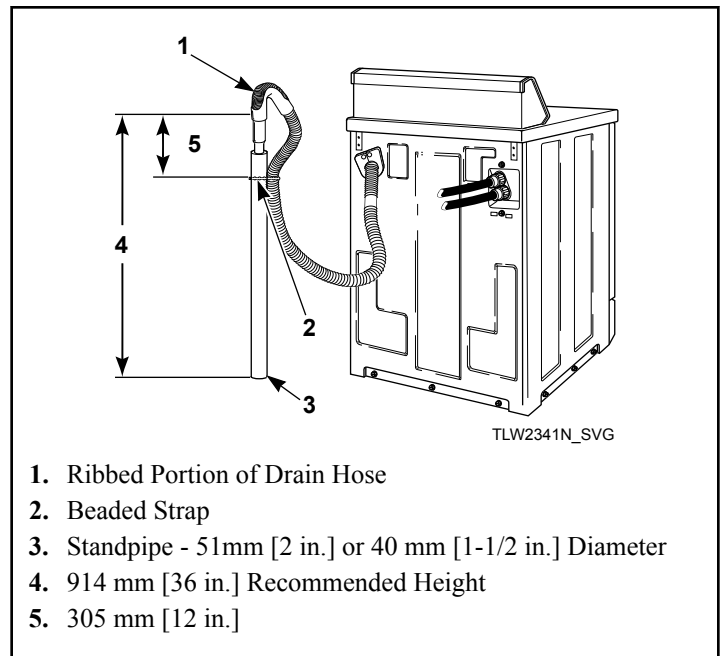

Figure 5
3. Remove the beaded strap from accessories bag and place around standpipe and drain hose, approximately 300 mm [12 inches] down from the top of pipe. Refer to *Figure 5*.